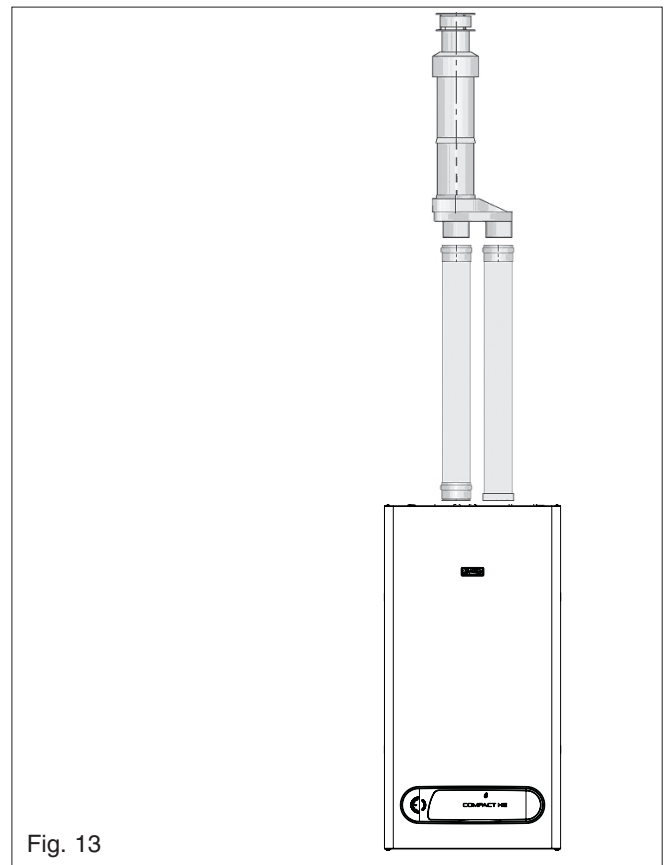

Fig. 13
**4.5.3.3 VERTICAL TERMINATION (see fig. 13)**